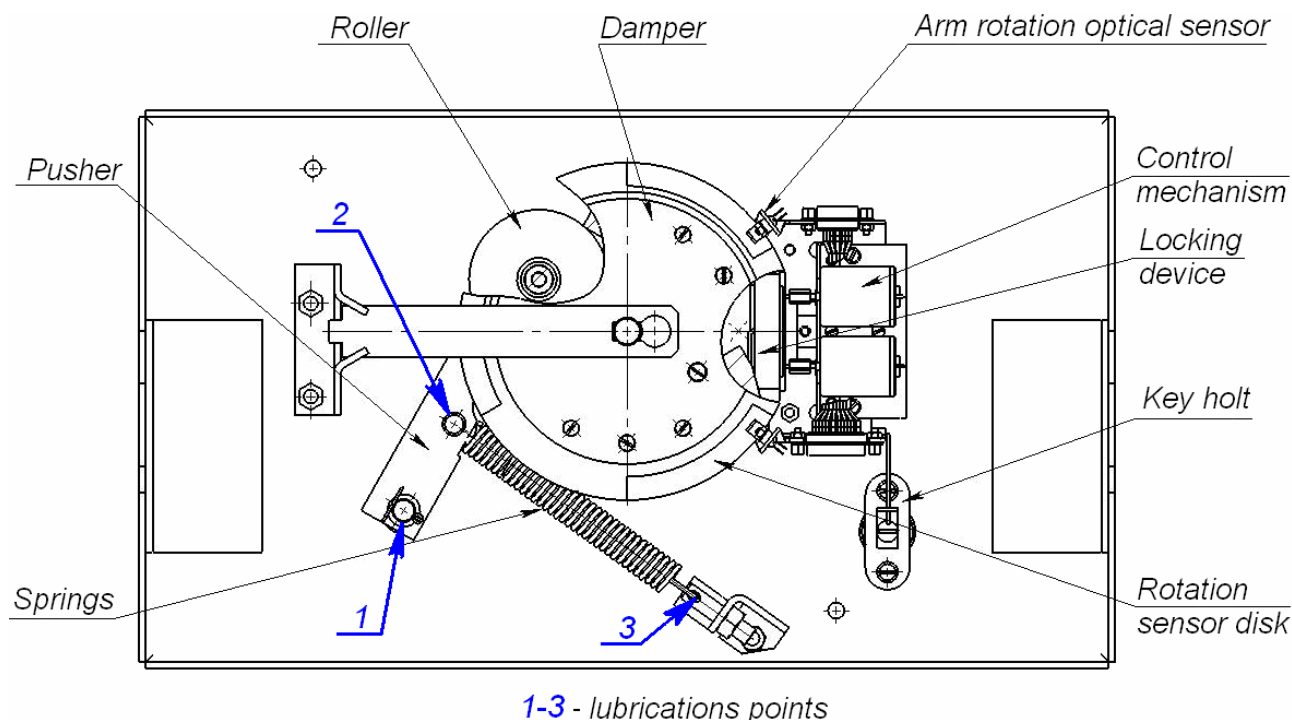

Fig. 16. Interior components of the TBC-01 turnstile mechanism
2. Remove the turnstile top cover (3) from the turnstile housing as described in Section 5.11, lay the cover on a flat steady surface;
3. Inspect the resetting mechanism (a pusher, springs and a roller), optic sensors and a damper (Ref. Fig. 16).
- four bushes of the resetting mechanism (two – on the rotation axis of the pusher, two – on the fastening axis of the springs as well as holes in the fastening parts of the springs); 2-3 drops of oil in each lubrication point (lubrication points are marked in Fig. 16); avoid ingress of lubricant on the rotation sensor disc and the roller surfaces;
- lock cylinders of the mechanical release lock (7) and top cover lock (4) from a side of the keyhole.
10. Check reliability of the barrier arm (5) fastening, to do so:
- unscrew the cover (6) screw M4×25 with a screw driver and take off the cover;